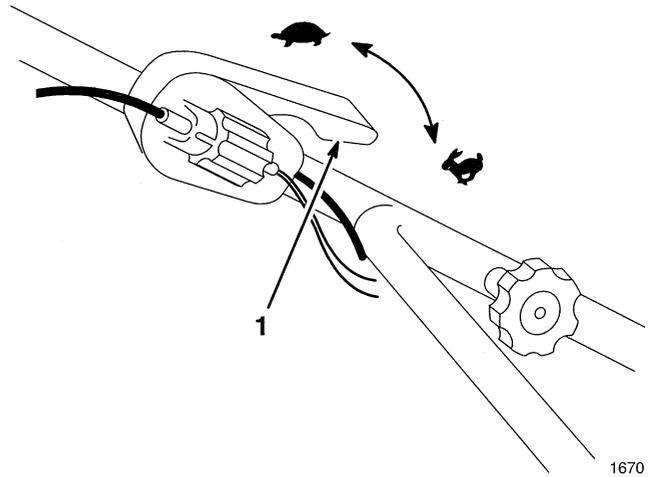

Figure 5
1. Move throttle lever to  FAST position (Fig. 5).